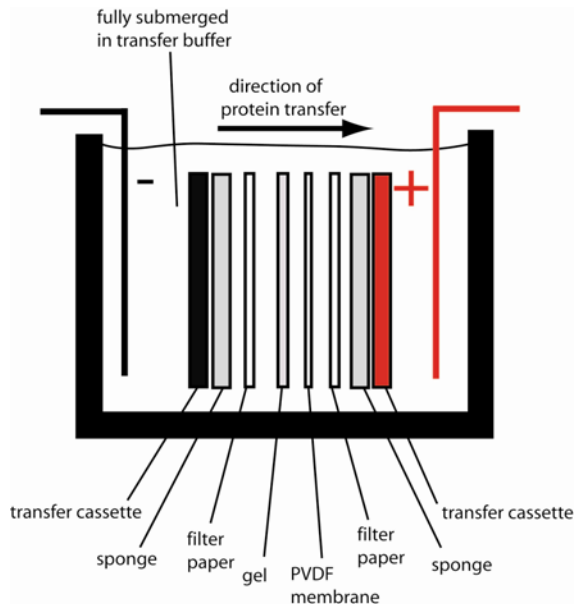

Figure 1: Assembly of Electroblotting sandwich in submerged transfer apparatus.
1. After electrophoresis is finished the gel should be soaked in transfer buffer for 30 minutes before assembling the transfer sandwich detailed in Figure 1.